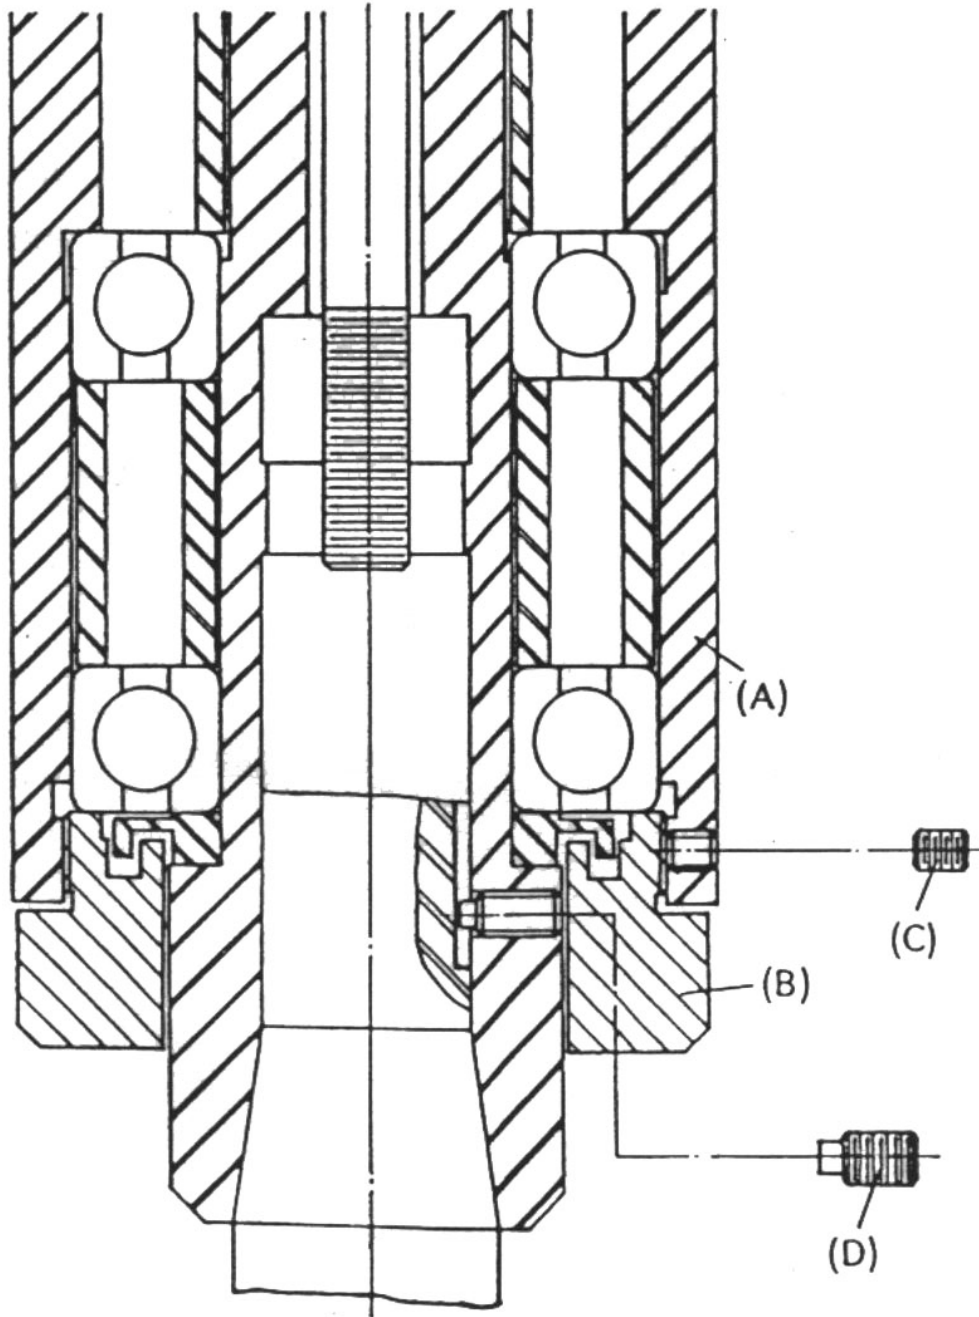

FIG10-7
10.2.5 Replacement of collect aligning screw (vide figure 10-7):(available for R8 spindle only)
- a. Prior to replacement, use a marking pencil to draw a line on quill (A) and its nose piece (B).
- b. Loosen the setting screw (C) nose piece. Use a hook spanner to take off the nose piece (B).
- (D) c. Use a hexagonal spanner of appropriate length to take off the collect aligning screw for replacement.
- d. When the collet aligning screw is replaced, set the nose piece (B) tightly until it is positioned on the marked line.
- e. Set the set screw (C) of nose piece tightly.